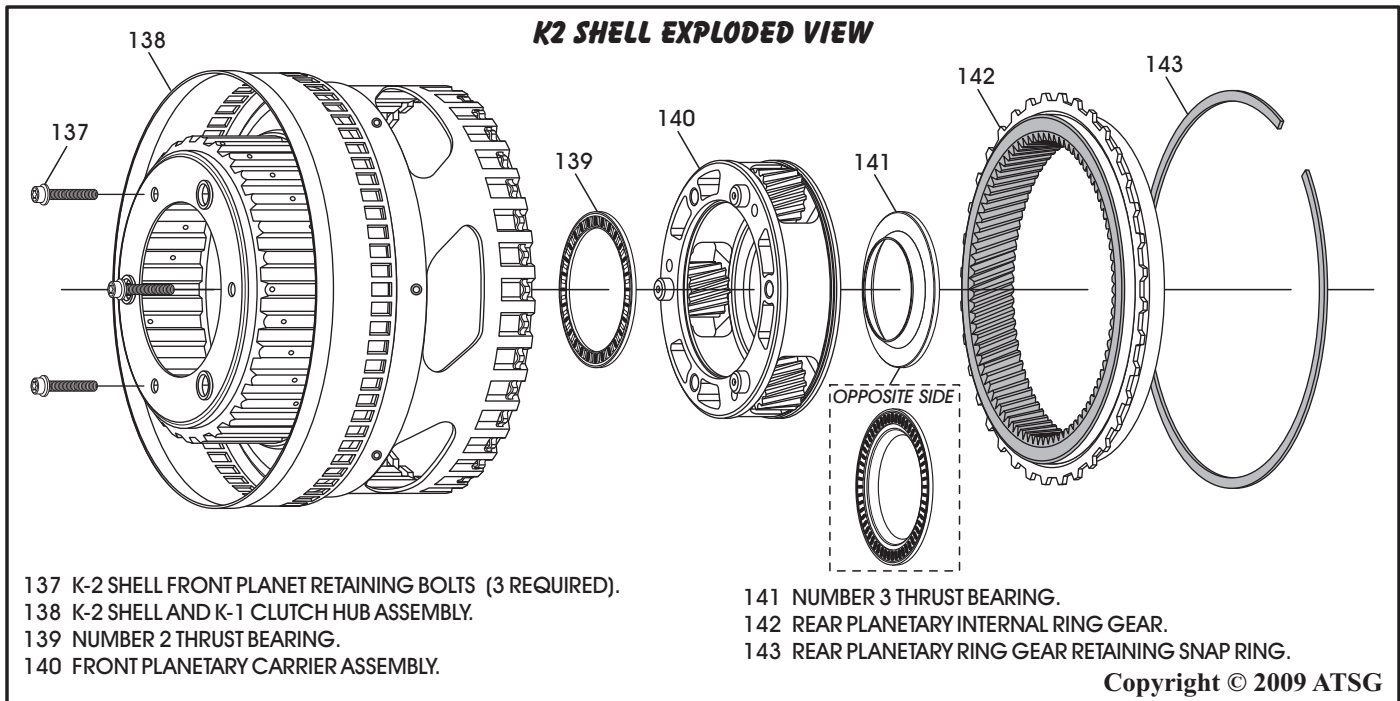

Figure 112
26. Disassemble the front planetary carrier from the K-2 shell by removing the bolts, as shown in Figure 112.